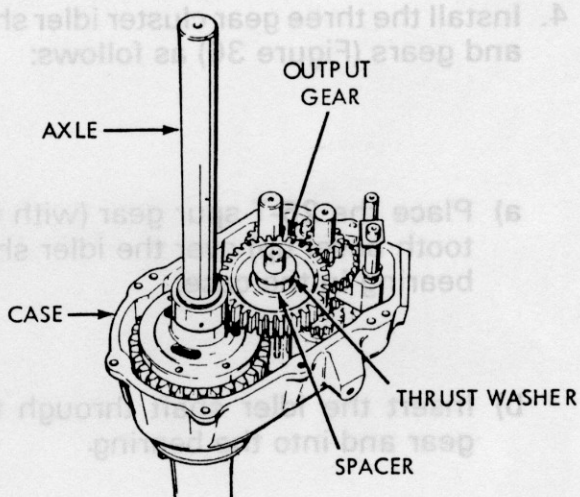

Figure 39 - Output Gear and Shaft
7. Install the output shaft (Figure 39) then place the 36-T spur gear, the 5/8" x 1-5/16" I.D. spacer, and the 1/16" x 3/4" thrust washer onto the output shaft.
- c) Align the case and cover with (2) dowel pins.
- d) Secure case to cover with (8) 1/4-20 x 3/4" socket head cap screws. Torque to 10 ft. lbs.
10. Install shifter housing. Use a new gasket. Torque (3) socket head cap screws to 10 ft. lbs.